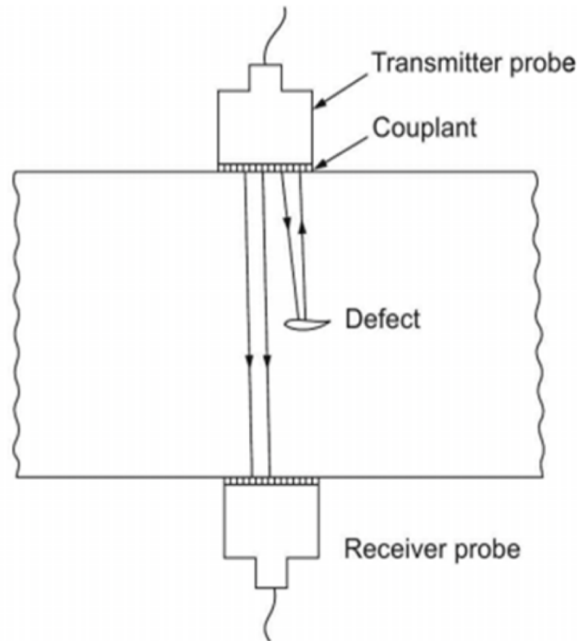

Fig. 4.16: Illustration of normal probe transmission method of ultrasonic testing
2. **Through-Transmission (Fig. 4.16):** Uses two transducers on opposite sides. A reduction in the transmitted signal indicates the presence of a defect.